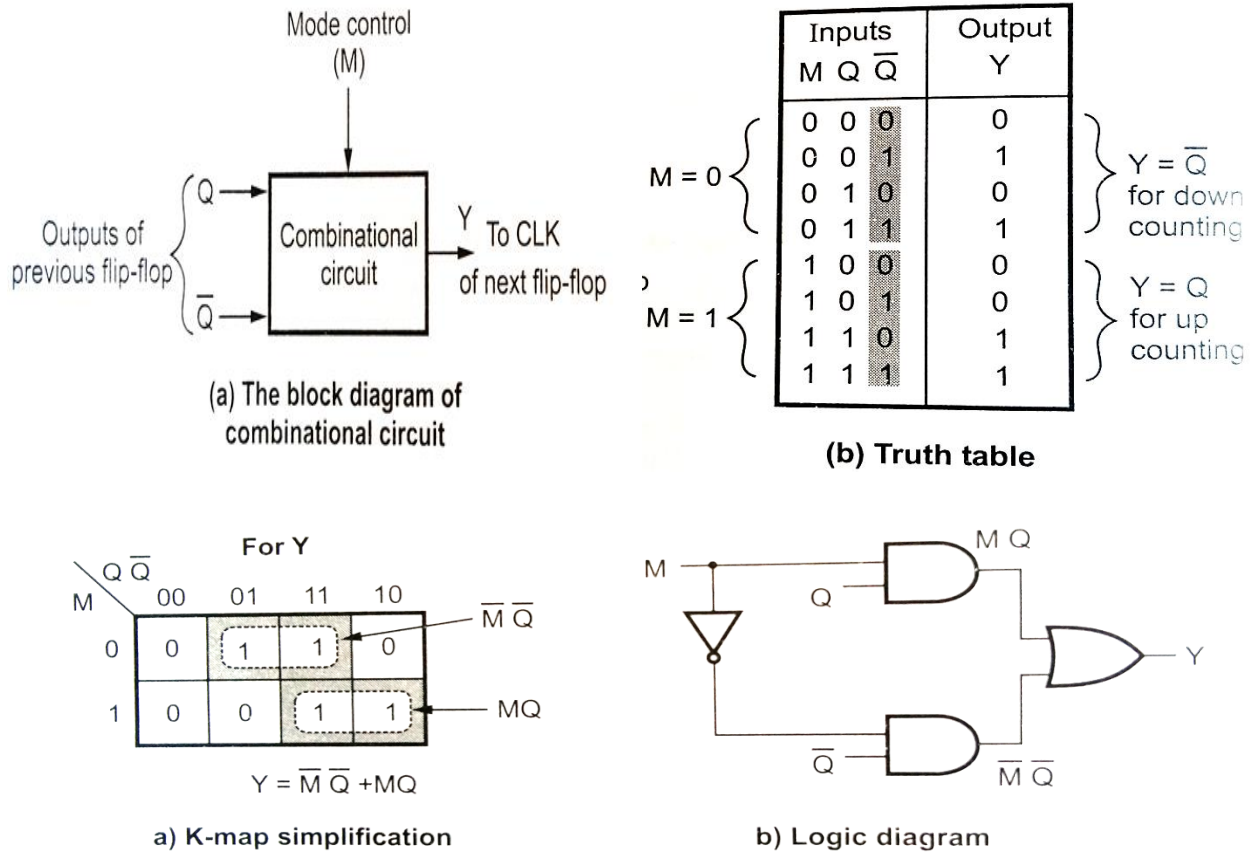

Figure 3.11: Asynchronous up/down counter.
- To achieve this M input should be used to control whether the normal flip-flop output (Q) or the inverted flip-flop output (\overline{Q}) is fed to drive the clock signal of the successive stage flip-flop, as shown in the figure 3.11